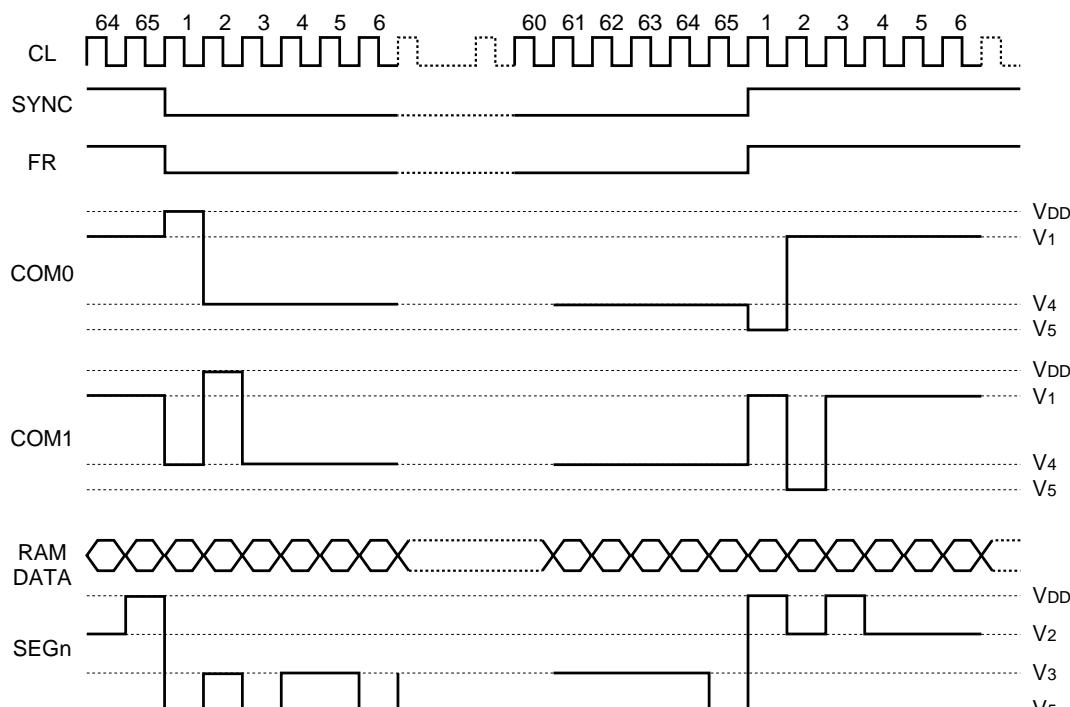

Figure 5
The circuit also generates the internal common timing, liquid crystal alternating current signal (FR), and synchronous signal (SYNC) from the display clocks. As shown in Figure 5, the FR normally generates the drive waveforms in the 2-frame alternating current drive system to the liquid crystal drive circuit. It can generate n-line reversal alternating current drive waveforms by setting data (n-1) to the n-line reversal drive register. If a display quality problem such as crosstalk occurs, it can be improved by using the n-line reversal alternating current drive waveforms. Determine the number of lines (n) to which alternating current is applied by actually displaying the liquid crystal.